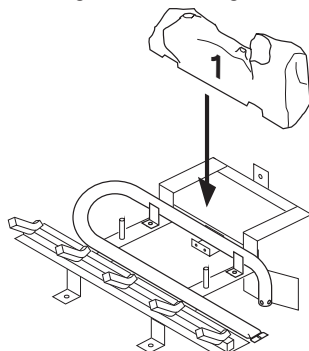

Figure 41 - Installing Log No. 1
It is very important to install these logs exactly as instructed in Figures 41 through 45. Do not modify logs. Only use logs supplied with freestanding burner system. Do not use if any log(s) are broken (see *Replacement Parts*, page 32).
2. Place log #1 (back log) on top of grate. Make sure the notches in the bottom of the log fit over the grate (see Figure 41).